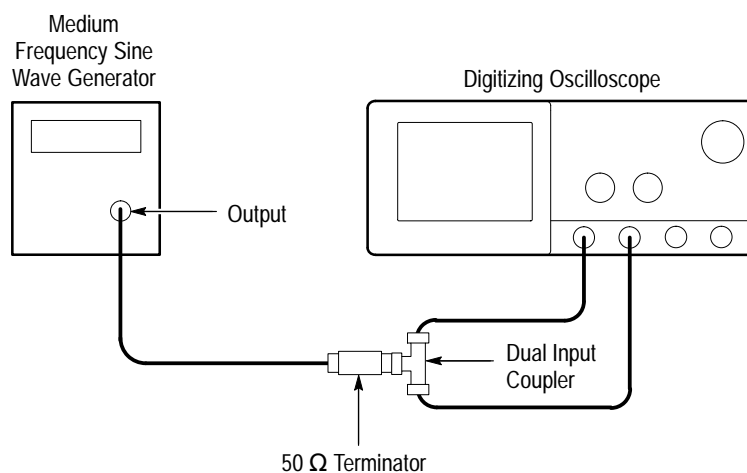

Figure 1–9: Initial Test Hookup
- Connect, through a 50 Ω precision coaxial cable followed by a 50 Ω termination, the sine wave output of a medium-frequency sine wave generator to a dual-input coupler. See Figure 1–9.
- Connect the coupler to both **CH 1** and **CH 2**. See Figure 1–9.